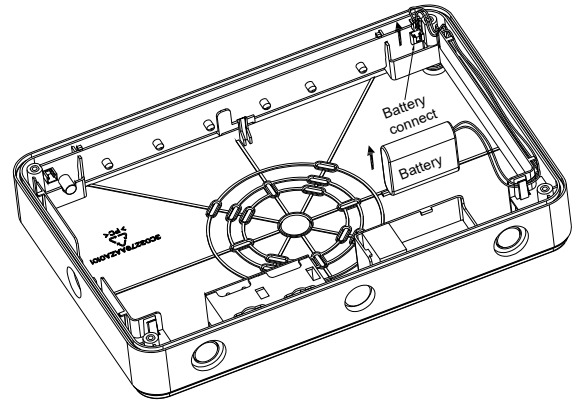

Fig 6
2. Disconnect the battery terminal from PC board and remove the battery (see Fig 6).